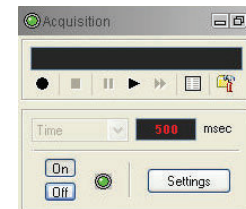

Figure 4-3 Acquisition panel
5. In the **Acquisition** panel (Figure 4-3) select the sampling mode ("depth" recommended). Click on **Settings** and specify the corresponding sampling rate. Switch on the sampling (click the **ON** button).
6. Press the **Record** button in the **Acquisition** panel (Figure 4-3), specify a file name and start the logging.